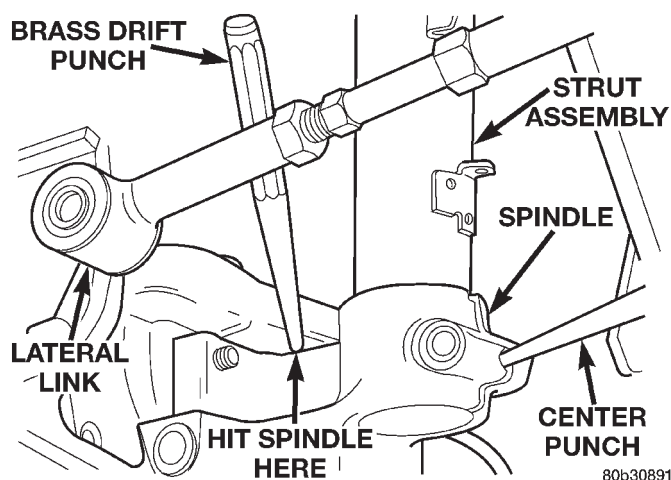

**Fig. 20 Removing Spindle From Strut**
(12) Using a hammer and a brass drift punch, tap on top surface of spindle, (Fig. 20) driving it off the end of the strut assembly.